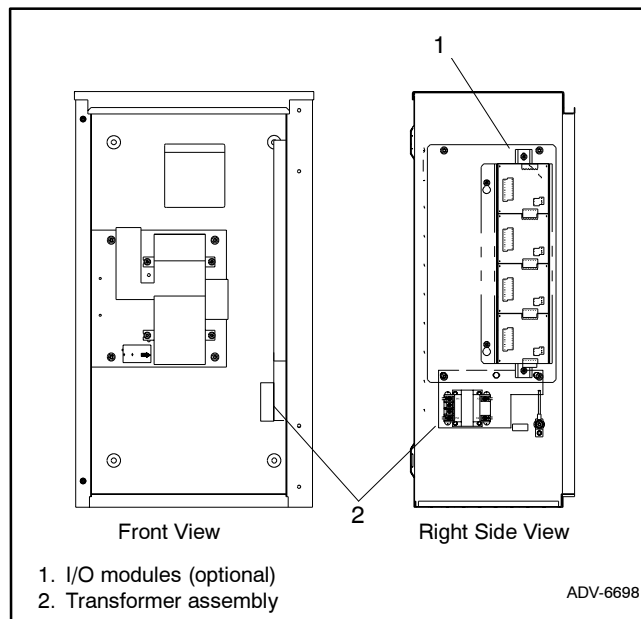

Figure 3 Transformer Assembly Location, 30-400 Amp Models
3.4.1 30-400 amp models: See Figure 3. Mount the transformer assembly on the right side of the enclosure onto the two lower I/O module mounting studs. Mount the transformer assembly mounting plate *under* the I/O module assembly, if installed. Secure the assembly with two nuts (X-6210-2).